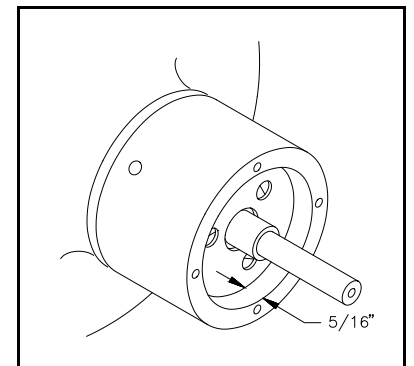

Figure 9. Clutch recess
- 8.3 Using a block of wood to protect the adapter, tap the face of the adapter on alternate sides until the clutch face is recessed 5/16" from the end of the adapter. See Figure 9.